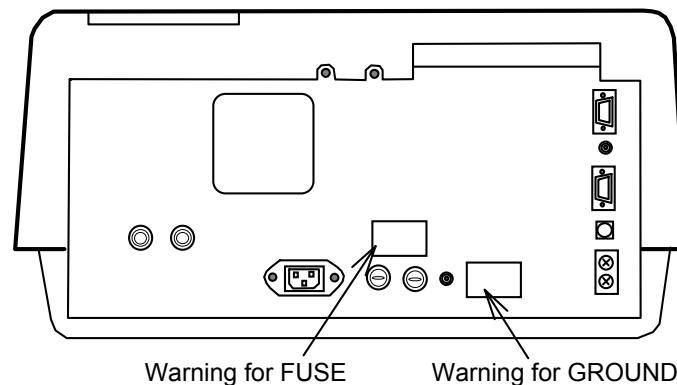
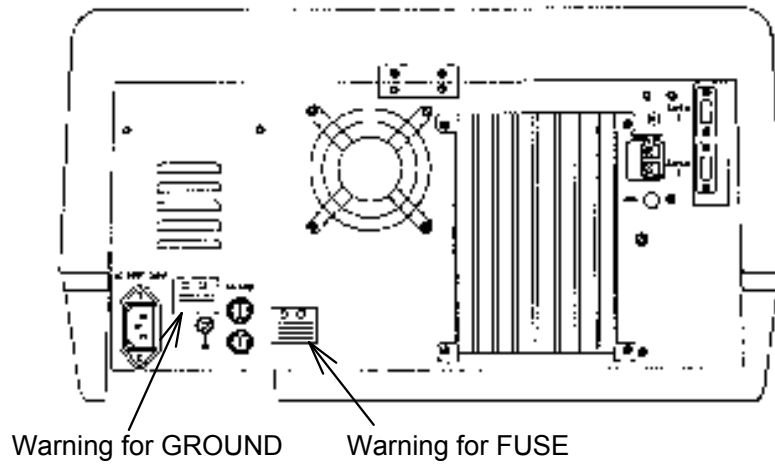

Figure 1 Warning Labels on the V-530 Rear Panel
Figure 2 Warning Labels on the V-550/560/570 Rear Panel
1) Warning for FUSE Fig.1 or Fig. 2
2) Warning for GROUND Fig.1 or Fig.2